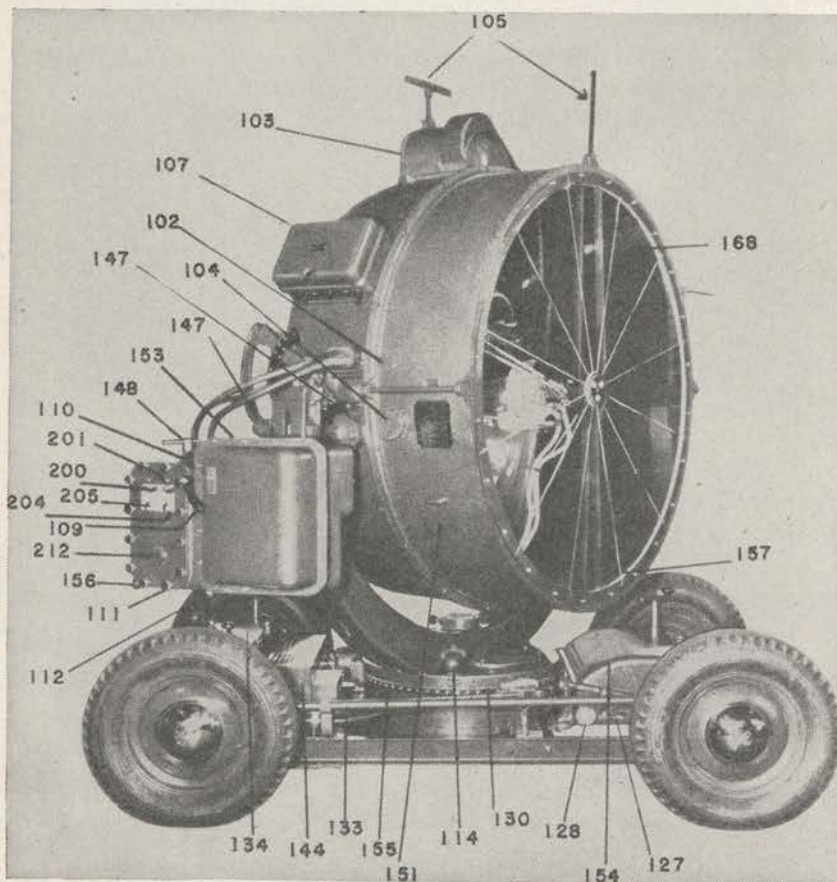

FIGURE 12.—General Electric M1940 searchlight (front quarter view).
*Q.* Point out the various parts of the M1940 General Electric searchlight. *A.* See figures 12, 13, 14, and 15.